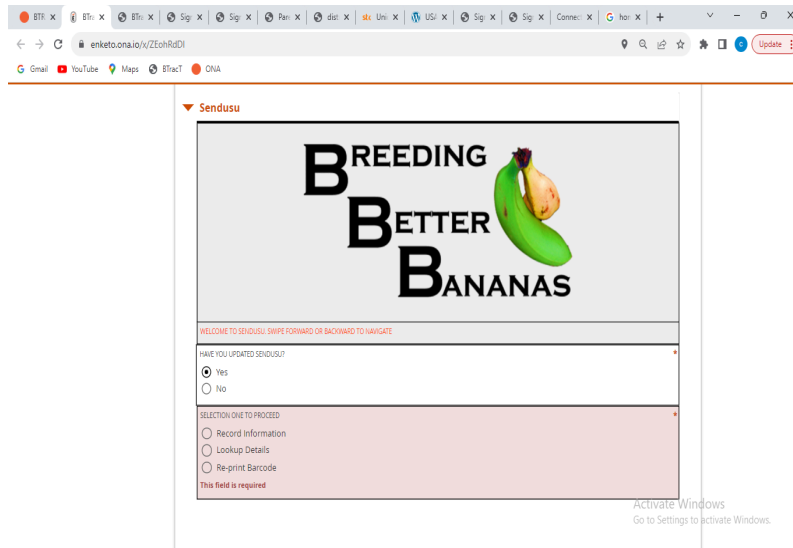

Figure 5: Part of the webform showing general information.
- Select the activity for example embryo germination as in figure 5